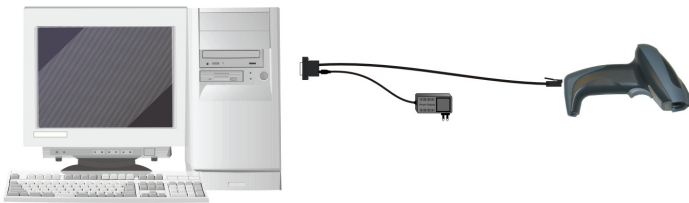

Figure 3 - RS232 Connection
1. Make all system connections as shown in Figure 3: